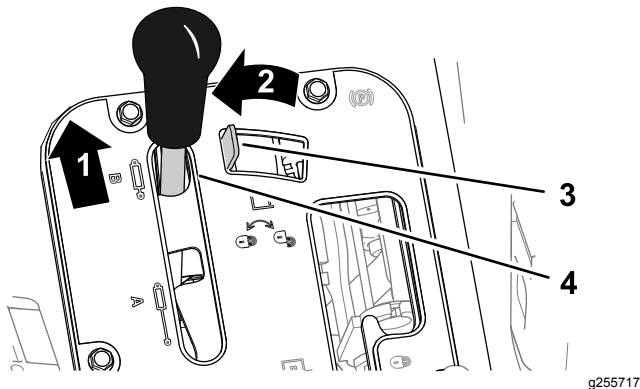
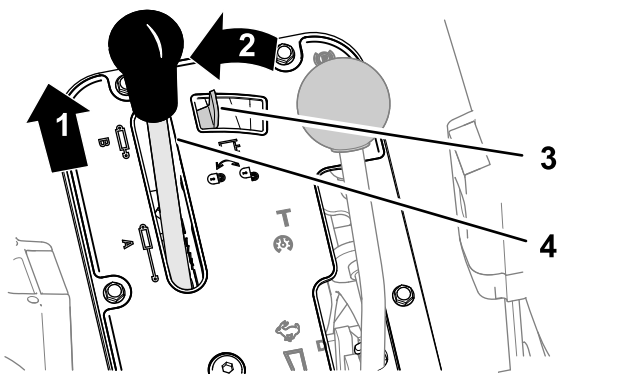

Figure 90
Figure 91
1. Push forward the hydraulic-lift lever (Figure 90 or Figure 91).
2. Move the hydraulic-lift lock left to engage the lock (Figure 90 or Figure 91).